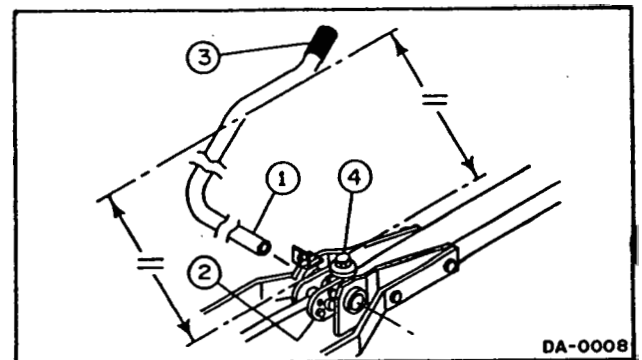

FIGURE 4
- h) Rotate the lift arm (fig.4, item 3) so that its handle is parallel to the ground, and block in that position. Set the lift lever (fig.4, item 2) so that the 5/8" x 4" bolt (fig.4, item 4) is perpendicular to the ground, and then tighten the bolt to 50 lbs. ft.
- i) Install 1" x 4 1/2" plastic handle (fig.4, item 3) on lift arm (fig.4, item 1).
- l) Tighten the 5/8" x 4" bolt (fig.4, item 4) **on** the lift lever to **100 lbs-ft**.